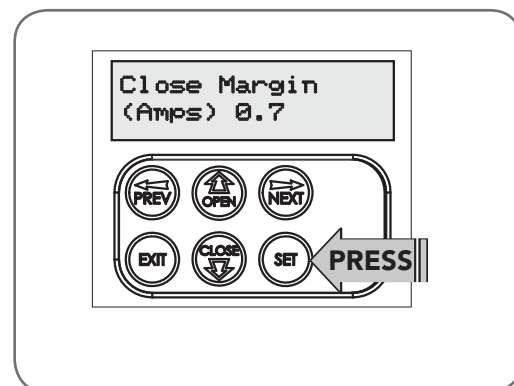

Fig 9.3
- MENU 2.1: CLOSE Margin is displayed (**Fig. 9.3**).
- Reprofiling is a simplified way of re-learning the travel characteristic of a previously setup Limit Switch travel installation. Re-profiling can be used when the travel characteristics of the gate changes due to mechanical adjustments etc. To initiate a re-profile, simply locate "MENU 10.2 Repofile Travel", press SET and follow the prompts. The gate will start to move and re-calculate force margins. The gate can move between the open and close limit positions up to two (2) times (depending on the position of the gate and the power up condition).